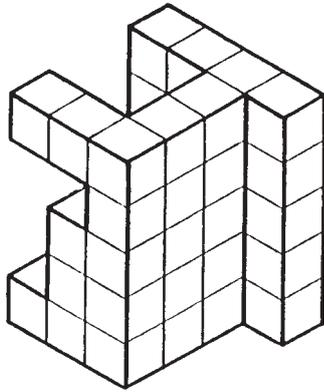
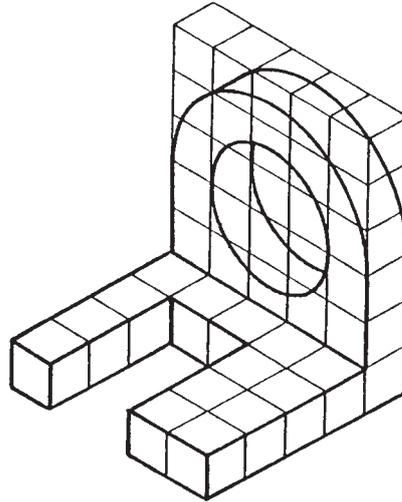
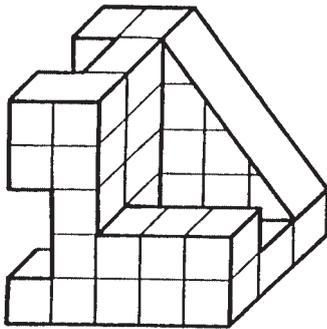

Figure 1a
Figure 1b
Figure 1c
3.1 In Section 6, figure 1 shows four simple engineering components. Figure 1a and figure 1b are drawn in isometric projection and figure 1c and figure 1d are drawn in oblique projection. You must redraw the isometric components in oblique projection and the oblique components must be redrawn in isometric projection.
3.3 Draw full size the two isometric projections figures 1a and 1b in oblique projection:
3.3.1 Figure 1a in oblique projection.
3.3.2 Figure 1b in oblique projection.
3.4 Draw full size the two oblique projections figures 1c and 1d in isometric projection:
3.4.1 Figure 1c in isometric projection.
- 4.3 The two isometric projections figures 1a and 1b in oblique projection drawn full size:
- 4.3.1 Figure 1a in oblique projection. ()
- 4.3.2 Figure 1b in oblique projection. []
- 4.4 The two oblique projections figures 1c and 1d in isometric projection drawn full size:
- 4.4.1 Figure 1c in isometric projection. ()